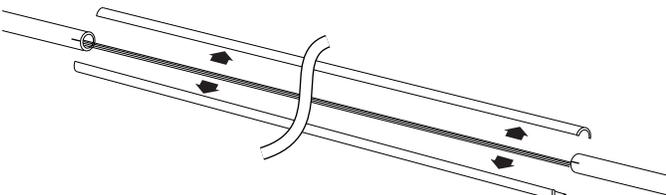

Figure 16
6.8 Carefully pull each tube half away from the fibers and cut them at both ends of the slit with scissors (Figure 16).